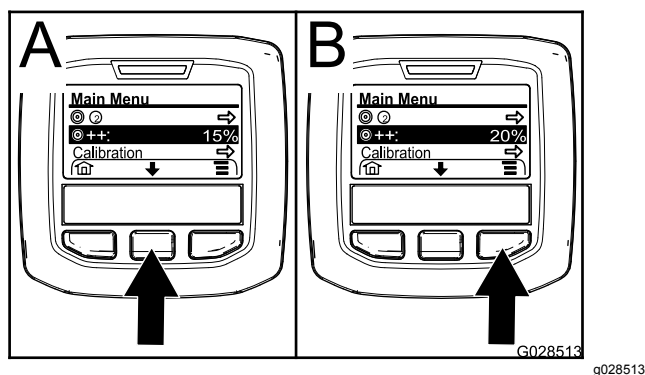

Figure 68
- If needed, press the center selection button to highlight the application rate boost (Figure 68).
Note: The icon for the application rate boost look 2 (+) signs to the right of a bull's-eye target (Figure 68).
- Press the right selection button (Figure 68) to increase the boost percentage in 5% increments (20% maximum).